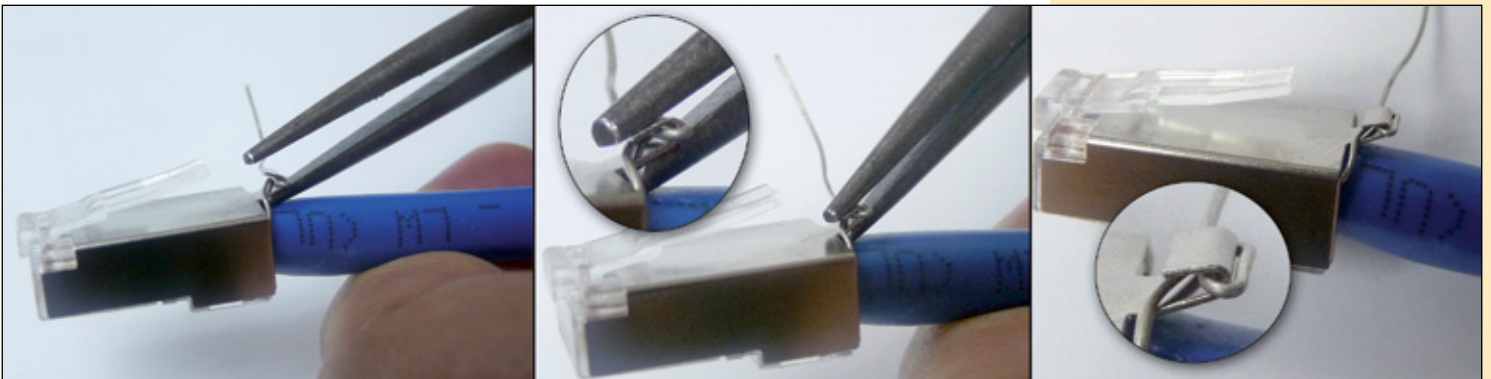

Figure 23
- 18 Proceed to crimp the grounding tab and drain wire with the help of a pair of pliers, as shown in the images of **Figure 23**.